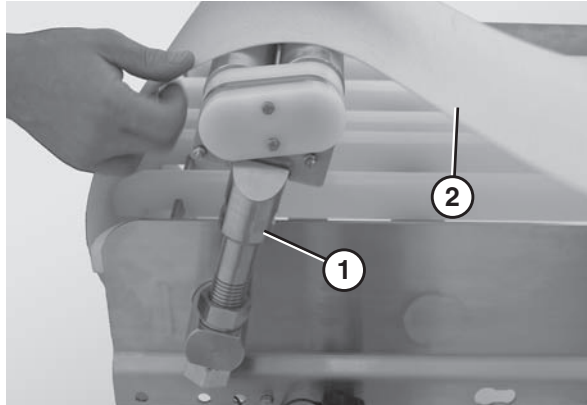

Figure 42
2. Place the tip up tail (Figure 42, item 1) in the up position.
3. Lift up on the belt (Figure 42, item 2).